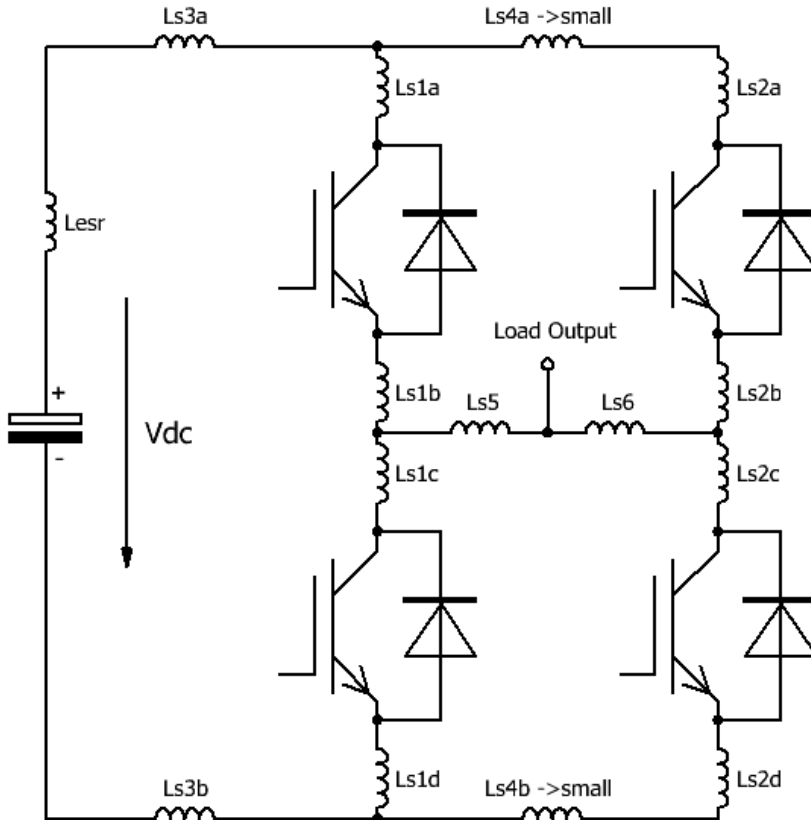

Fig. 17 Half-bridge topology with stray inductances
- The converter should be constructed as symmetrically as possible with respect to the paralleled IGBT modules in order to ensure symmetrical operation. The DC-link stray inductance of each paralleled IGBT module in particular should be similar ($L_{s1x} \approx L_{s2x}$, $L_{s5} \approx L_{s6}$ in Fig. 17).